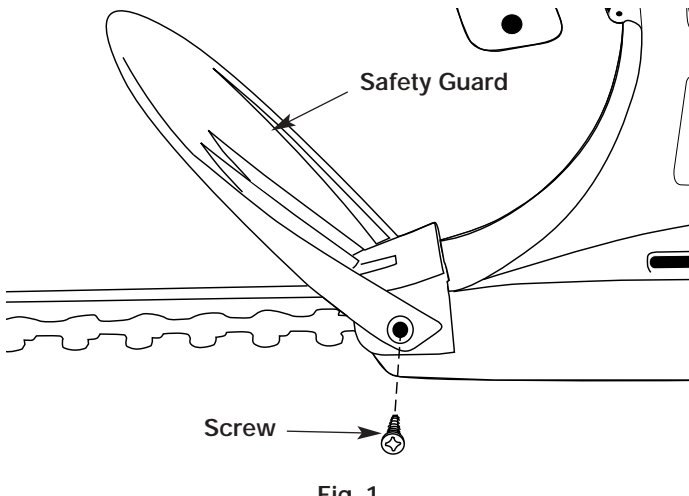

Fig. 1
1. Place the safety guard on the trimmer, at the base of the cutting blade (Fig. 1).
2. Align the screw holes in the guard with the holes in the trimmer (Fig. 1).